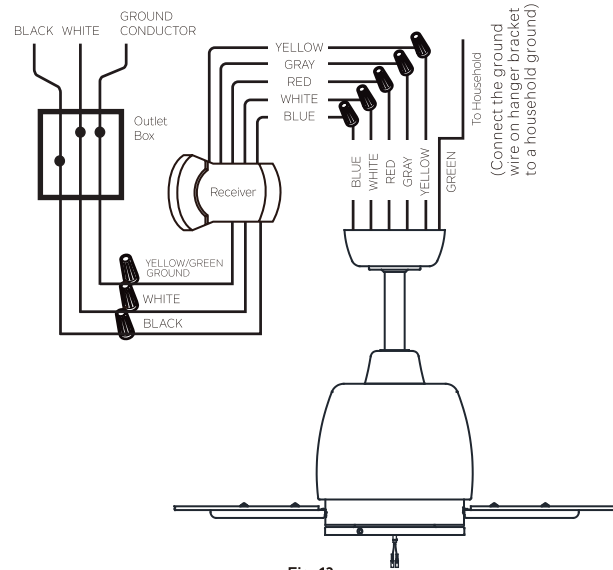

Fig. 13
Make each of the wire connections illustrated in Figure 13. Secure each with the wire nuts provided.
**Step 1.** Connect the Blue wire from the fan (motor) to the Blue wire from the receiver. White wire from the fan (motor) to the White wire from the receiver. Red wire from the fan (motor) to the Red wire from the receiver. Gray wire from the fan (motor) to the Gray wire from the receiver. Yellow wire from the fan (motor) to the Yellow wire from the receiver. (Fig13)
**Step 1.** The black wire of the receiver (AC IN L) connects to the black wire (HOT) of the ceiling outlet box (Fig 13).